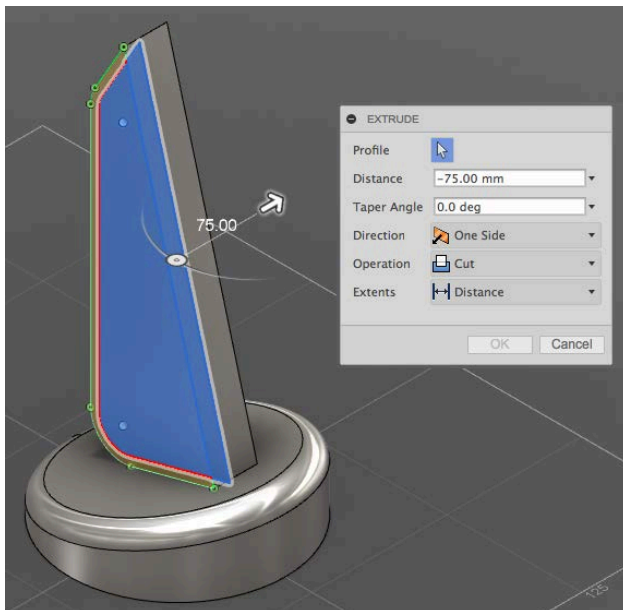

Fig. L10
10. Go to Modify>Press Pull, select the offset sketch and pull it to cut through the box (Fig.L10).